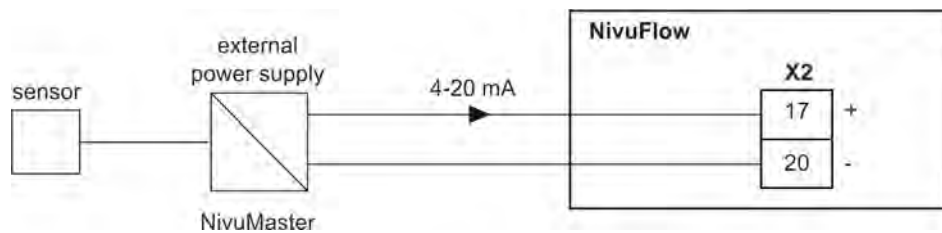

Fig. 16-6 Connection of an external level measurement
- If the mA signal of the level measurement is provided from an external transmitter (e. g. NivuMaster), the transmitter must be connected according to Fig. 16-6.